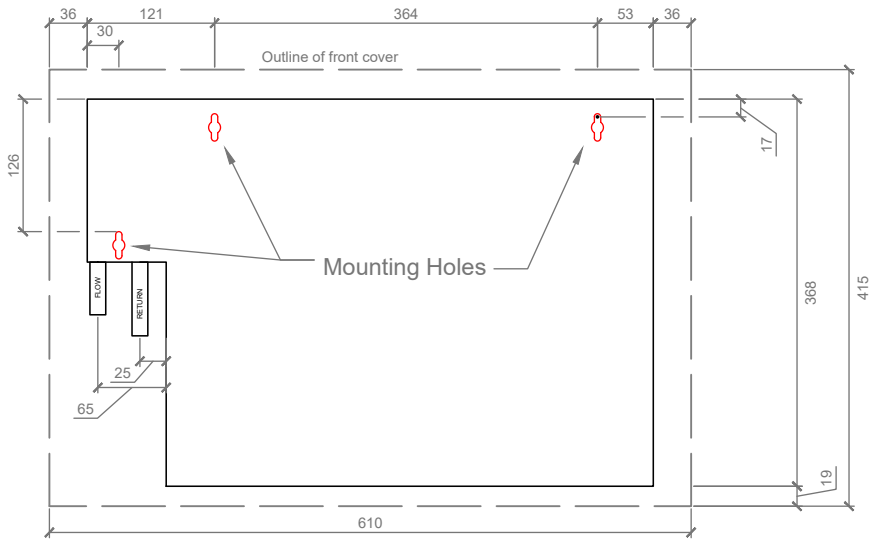

Figure 3-6: Solo Compact fixing holes (viewed from the front)
7. Use a spirit level on the top of the unit to ensure it is level and mark the position of the three fixing holes in the back plate onto the wall. Refer to Figure 3-6, 3-7 and 3-8 for the fixing hole positions.